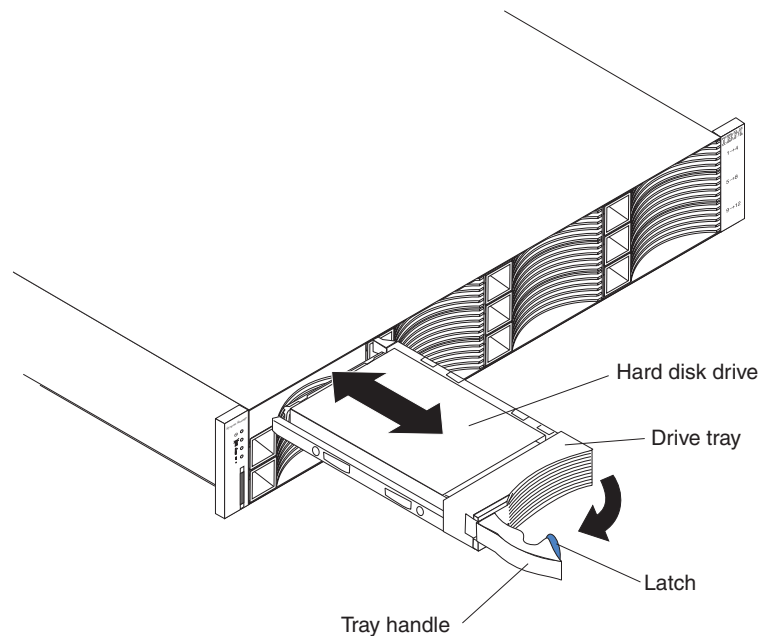

Figure 46. Removing a drive
4. Pull the drive out of the bay, as shown in Figure 46.